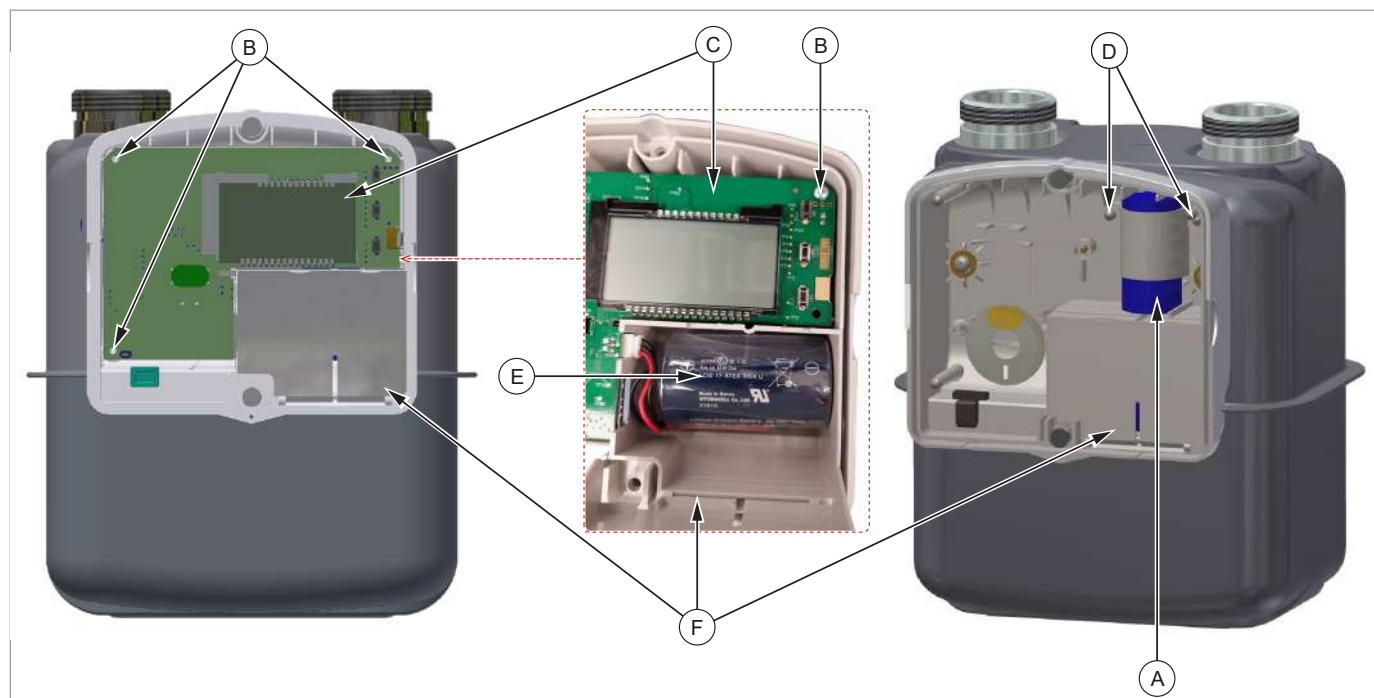

Fig. 10.12. Battery removal
To remove the metrology battery (A), proceed as described in Tab.10.88 (referring to Fig.10.12.):
To remove the communication battery (E), proceed as described in Tab.10.89 (referring to Fig.10.12.):